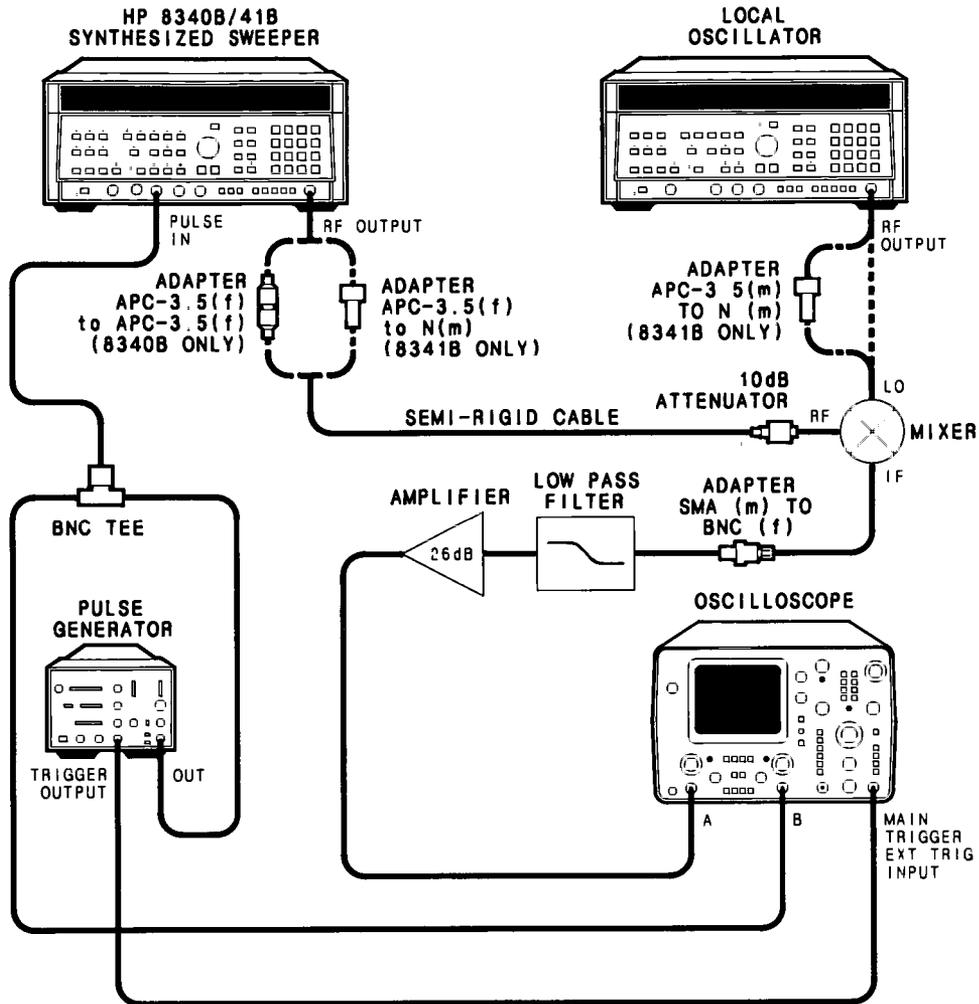

Figure 4-13 Pulse Modulation Rise and Fall Time Test Setup
1. Connect equipment as shown in Figure 4-13. Connect the mixer directly to the local oscillator RF output to obtain maximum LO drive to the mixer. Connect the BNC tee directly to the HP 8340B/41B PULSE IN connector. Allow a one hour warm up time.